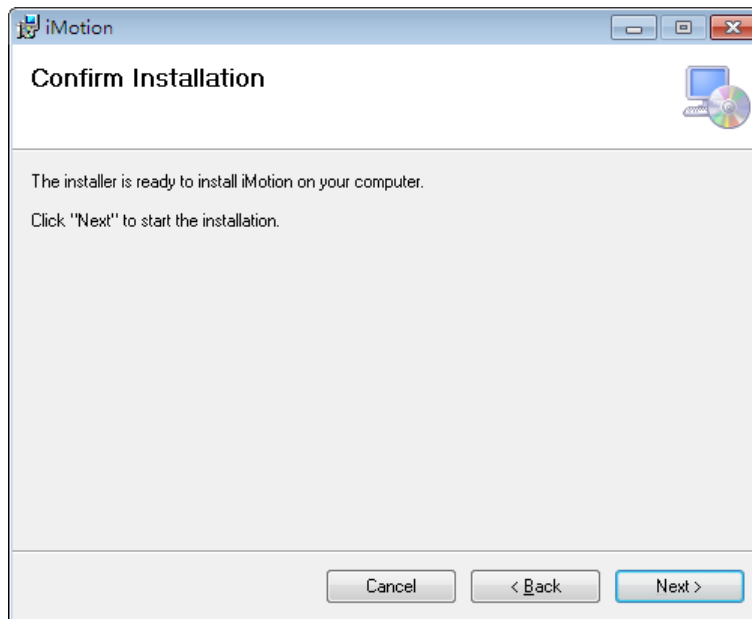

Fig. 1-4 Installation confirmation
- 5) A confirmation dialog box will appear. Click [Next] to continue, see Fig. 1-4.